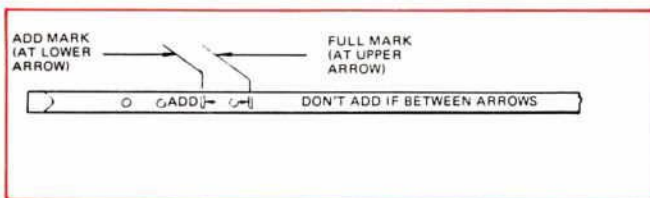

Figure 7—New Dipstick Marking, Late Model Ford-Built Cars and Light Trucks—Automatic Transmissions
- With the engine running, the fluid level should be above the ADD mark but not above the FULL mark. See Figure 7. In other words, the fluid level can be anywhere between ADD and FULL. If you find the fluid level low, suggest to the owner that a leakage check be made to locate the cause of fluid loss.